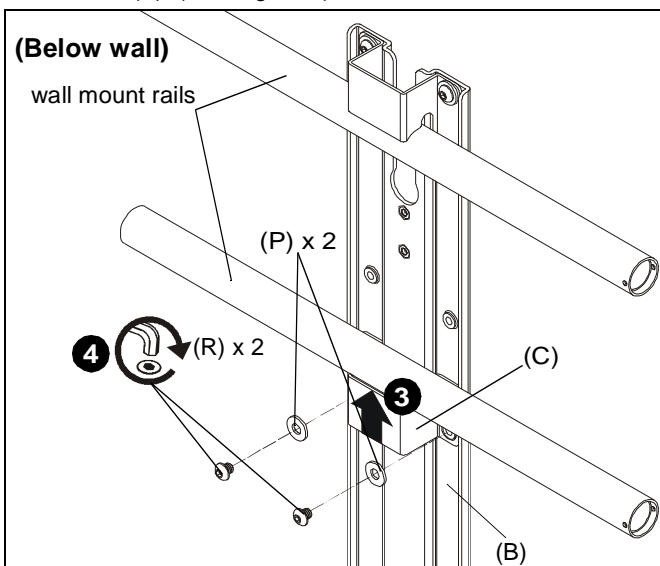

Figure 6
3. Slide second support bracket (C) underneath lower rail on wall mount, lining up holes on support bracket (C) to main bracket (B). (See Figure 6)
4. Use two 1/4-20 x 1/4" button head cap screws (R) and two large washers (P) to secure support bracket (C) to main bracket (B). (See Figure 6)